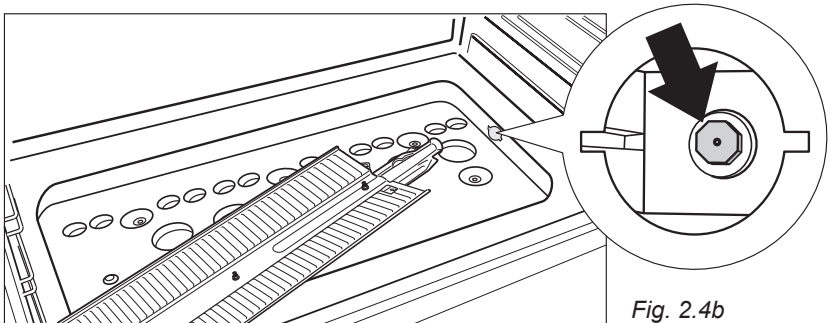

Fig. 2.4b
- Withdraw the burner as shown in figure 2.4b.
- Using a 7 mm box spanner, unscrew the injector (indicated by the arrow in fig. 2.4b) and replace it with a new one selected in accordance with the “Table for the choice of the injectors”.
To regulate the air supply it is necessary to remove the burners from the cavity (figs. 2.4b - 2.5b).